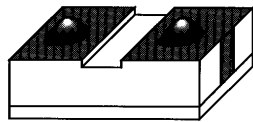

Figure 6A
1. Apply approximately 1 milligram of epoxy to each contact on the accelerometer base, as shown in Figure 6A.